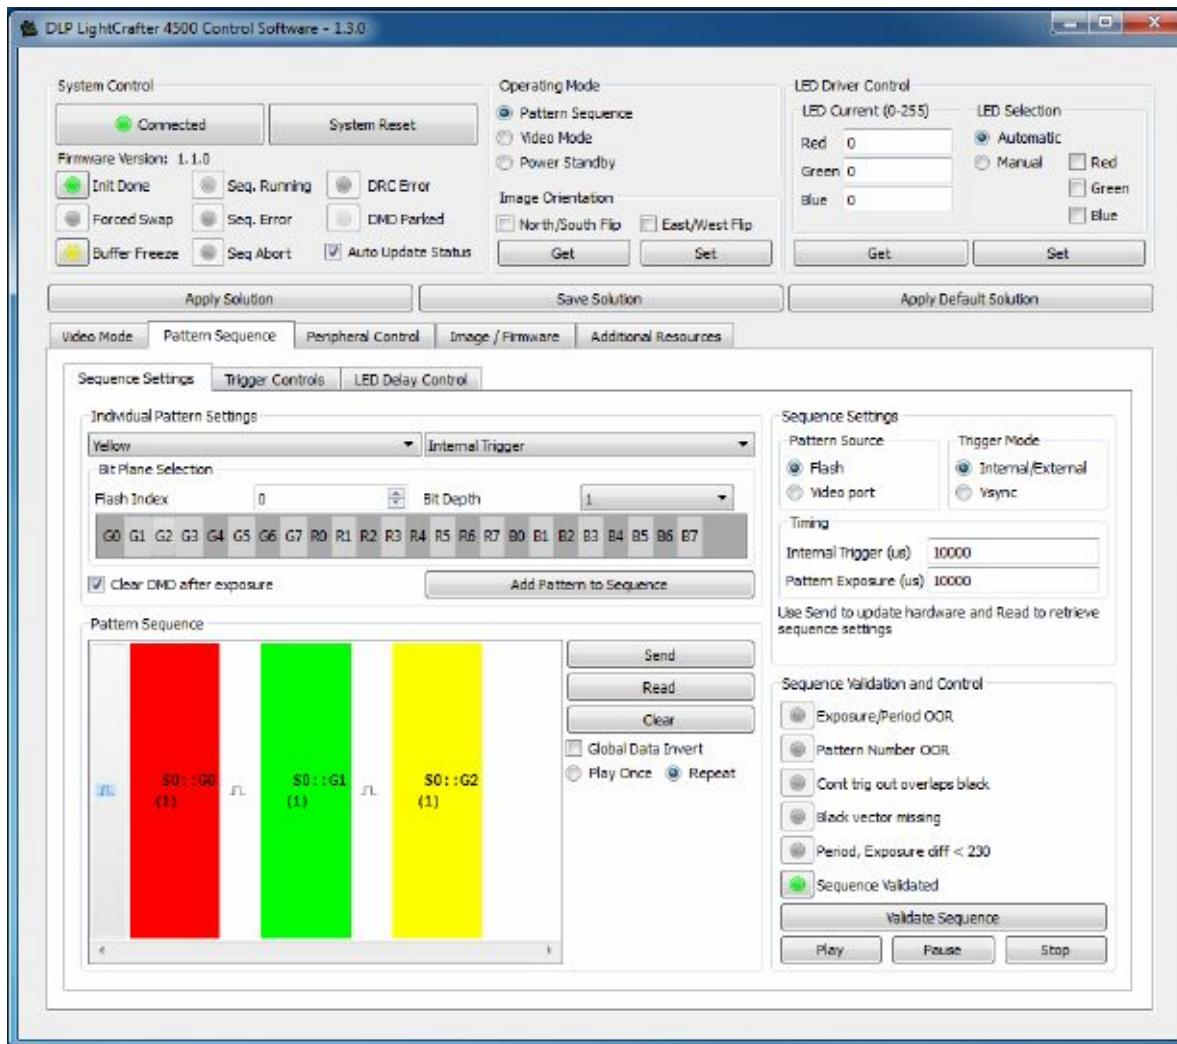

Figure 3-5. PRO4500 GUI – Pattern Sequence Mode
A pattern sequence is composed of several patterns loaded from flash memory or streamed through the 24-bit RGB video port. Each individual pattern can have a specific set of LEDs illuminating it, a particular bit-depth, and an internal or external trigger. The *Sequence Settings* subtab lets the user define and set all the *Individual Pattern Settings*. The *Trigger Control* subtab and the *LED Delay Control* subtab set the trigger and LED enable edge timings, respectively. Figure 3-5 shows the PRO4500 GUI with the *Pattern Sequence* tab selected.
5. If the patterns sequence must be played once, set Play Once in Figure 3-5. This setting will play the number of patterns set in *Trigger Control*'s subtab under "Trigger 2 Patterns per pulse". If set to 1, it plays the first pattern in the sequence and stops. If set to 10, it plays the first 10 patterns in the sequence. If the pattern sequence is to continuously repeat, set repeat. Make sure to click the **Send** button after clicking on **Play Once** to download the new settings.
The **Pattern Sequences** section shows the pattern sequence as a set of colored rectangles. The color corresponds to the LEDs used. The entries on the rectangles represent the image source, the bit-plane, and the bit-depth as follows: S0::G0 (1) indicates flash location 0, bit-plane = G0, bit-depth = 1. F2::G5 (3) indicates Frame 2, bit-plane = G5, bit-depth = 3. For example, in Figure 3-5, a pattern sequence of three patterns is displayed. Each pattern is triggered every 100 ms and exposed for 100 ms. The first pattern is a 1-bit green pattern using bit-plane G0 from flash location 0. The second pattern is a 1-bit blue pattern using bit-plane G1 from flash location 0. The third pattern is a 1-bit red pattern using bit-plane G2 from flash location 0.